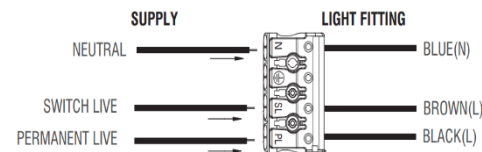

Fig 2
2. Electrical connections to the terminal block (Fig.2) for the emergency & emergency microwave version.